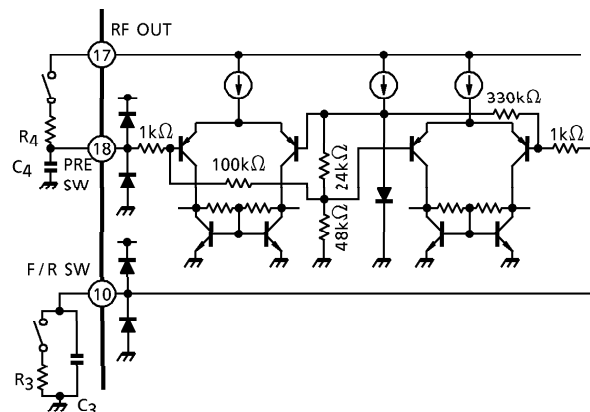

Fig.2 Internal equivalent circuit of F/R SW and PRE SW and the external circuits reducing a pop sound in switchover
(3) F/R SW
The terminal of F/R SW (pin⑩) should not be applied to higher voltage than V_{17} (RF OUT), because the ripple filter circuit supplies the F/R SW circuit with power source. And in reverse mode, the terminal of F/R SW should be connected with GND line through R_3 ($180 \sim 270k\Omega$), because the F/R SW circuit doesn't operate normally. It is advised to connect an external capacitor ($C_3 \cong 1\mu F$), in order to reduce a pop sound in switchover between F/R mode (see Fig.2). As for the constants, select the optimum one depending on each a set carefully.
It is advised to connect a external resistor ($R_4 = 100 \sim 330k\Omega$) and capacitor ($C_4 \doteq 1\mu F$), in order to reduce a pop sound in switchover between PRE SW on/off mode (see Fig.2). As for the constants, select the optimum one depending on each a set carefully.